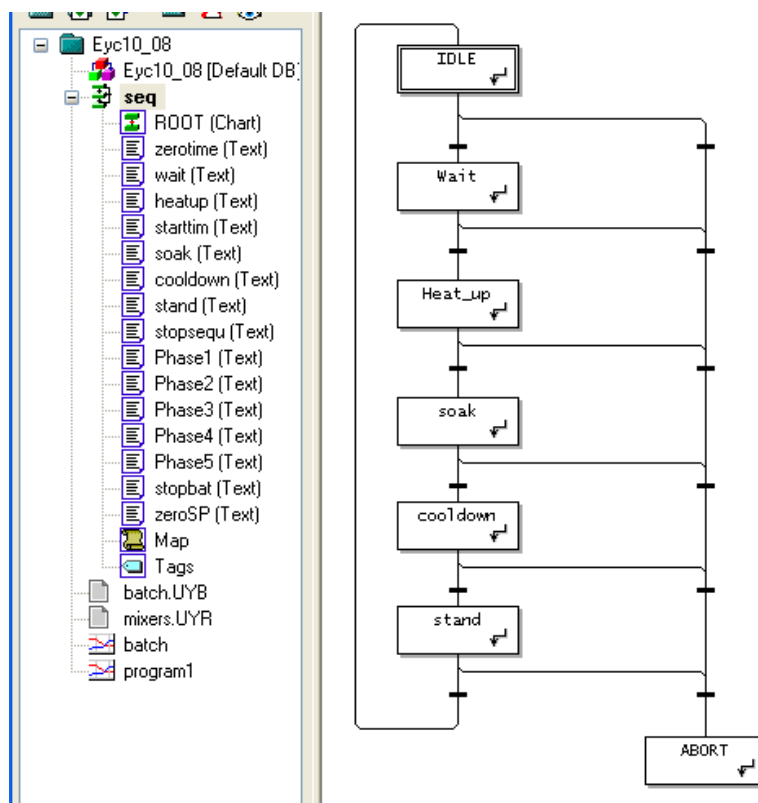

Figure 8-11 The modified sequence – 'abort' added
Figure 8-11 shows how the sequence will look after being modified to add 'abort' functionality. To do this:
- 2 Click the **Step** tool  and position a new step near the bottom right of the existing sequence (see Figure 8-11). Double-click the new step and name it 'ABORT' in the step pane.
- 6 Wire up the remaining steps to the ABORT step. After tidying, your ‘abort’ wiring should look something like that in Figure 8-11.